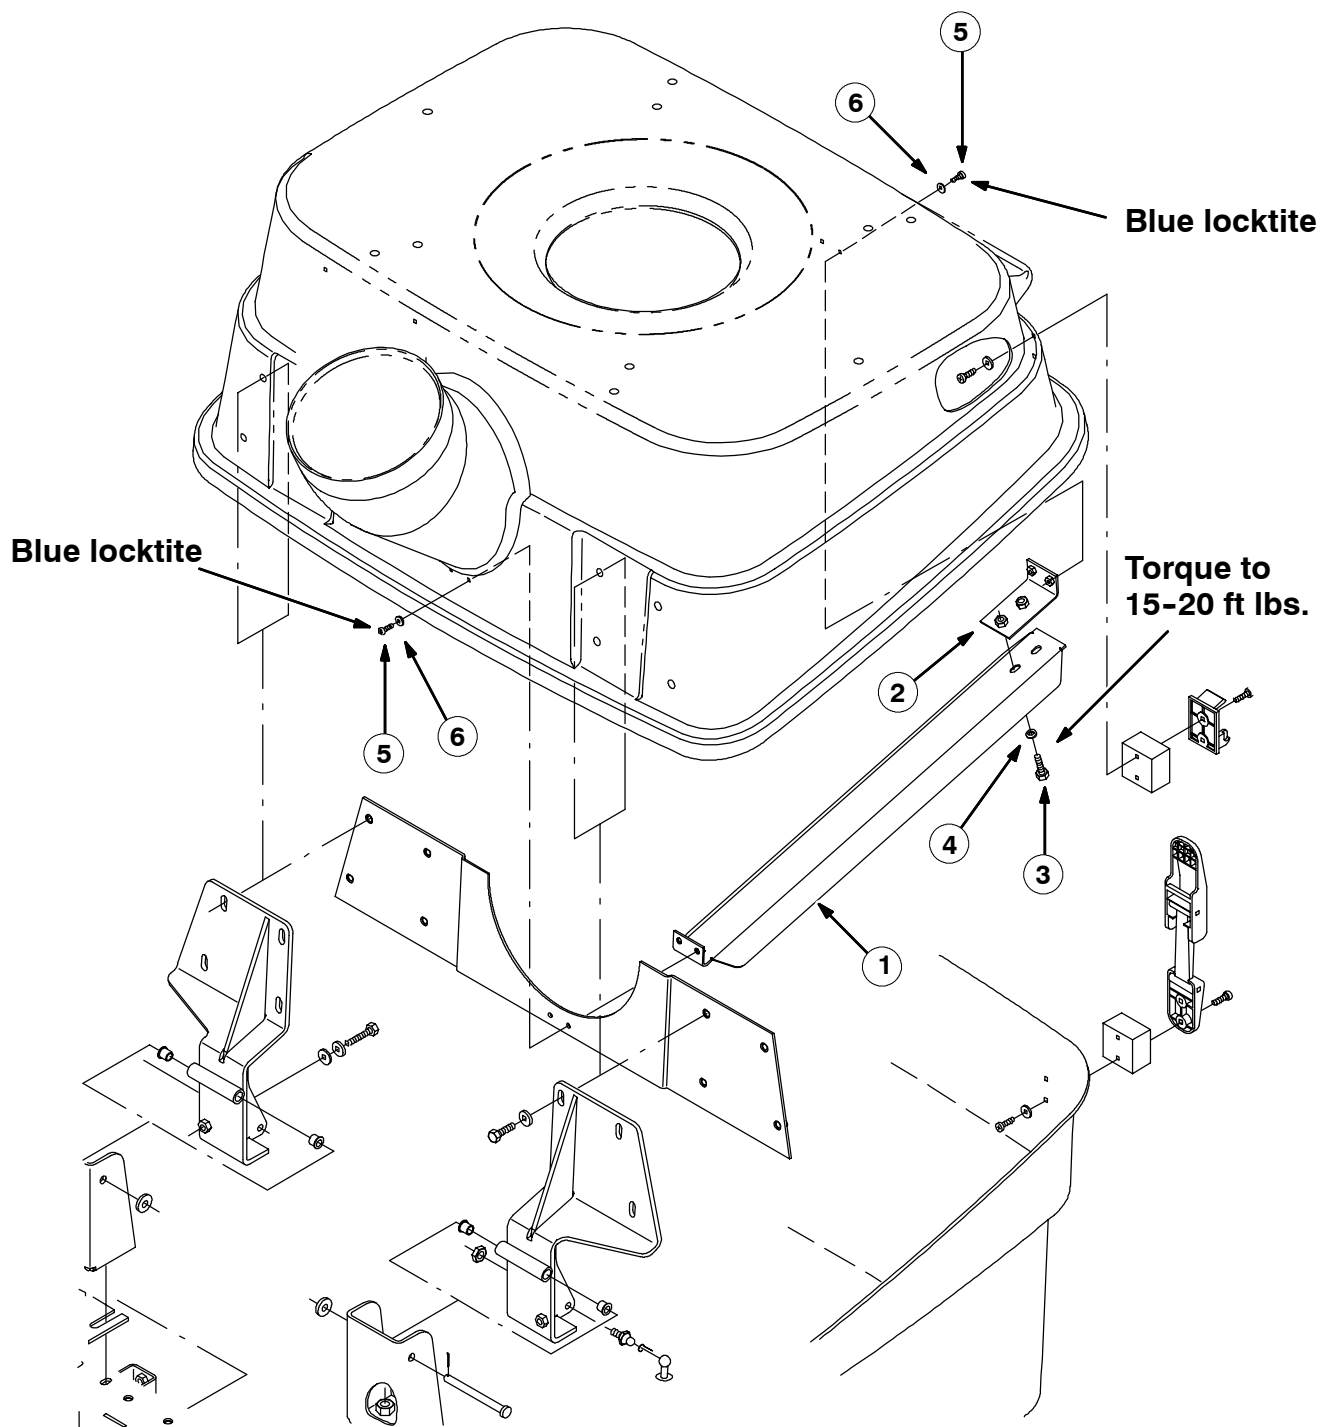

FIG. 1 - INSTALLATION, PLENUM BRACE KIT 368105
(Refer to FIG. 1)
2. Mount the brace mounting bracket (2) loosely to the end of the plenum brace (1), using two hex screws (3) and flat washers (4). Do not tighten the hardware at this time. (Refer to FIG. 1)
3. Hold the plenum brace (1) in mounting position. Using the plenum brace (1) as a template, mark and drill the four mounting holes in the hopper top with a hand drill and 15/64" (6mm) drill bit. (Refer to FIG. 1)
4. Mount the plenum brace (1) to the hopper cover with four pan screws (5), washers (6) and blue loctite. Tighten the screws to 16-20 ft lbs. (Refer to FIG. 1)
5. Tighten the hex screws (3) connecting the brace mounting bracket (2) to the plenum brace (1). Tighten the hardware to 16-20 ft lbs. (Refer to FIG. 1)